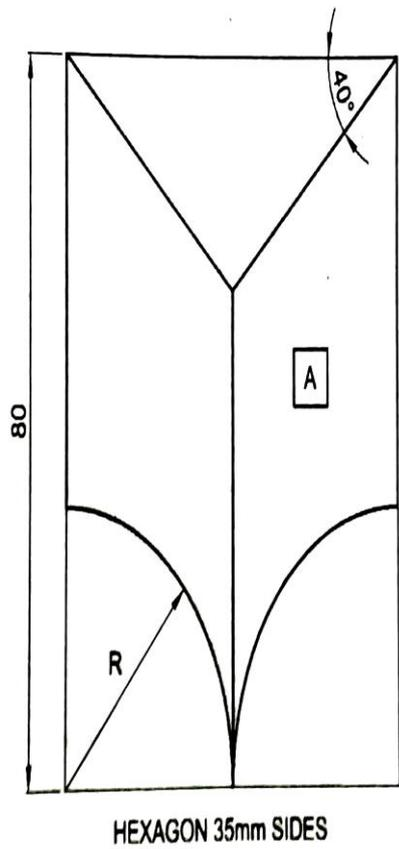

Figure 1
Q.4 (a) Draw the development of part A of the hexagonal prism of 35 mm base side, shown in the Figure 1. 07